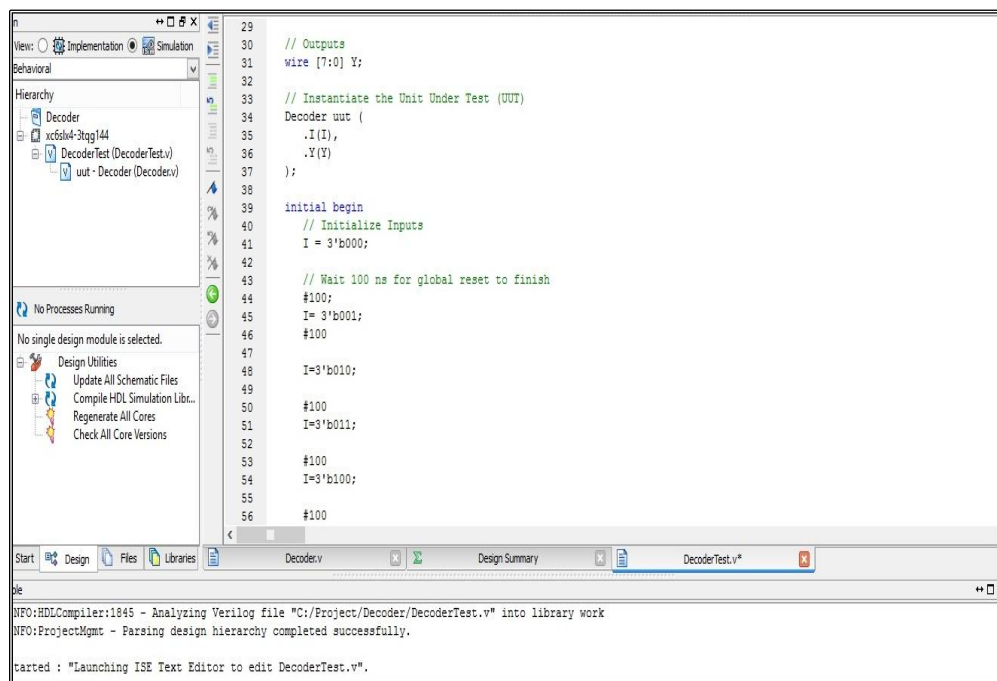

Fig 5.5: 3:8 Decoder testbench
12. The ISE project navigator will generate template for testbench. The ISE tool detects the inputs/outputs from the source file and creates a template instantiating the original source module and provides initial values (Fig 5.5). After editing the test bench, click on **Behavioral Check Syntax** in the Processes window to check for syntax errors in the test bench. If no errors are present double click on Simulate Behavioral Model.